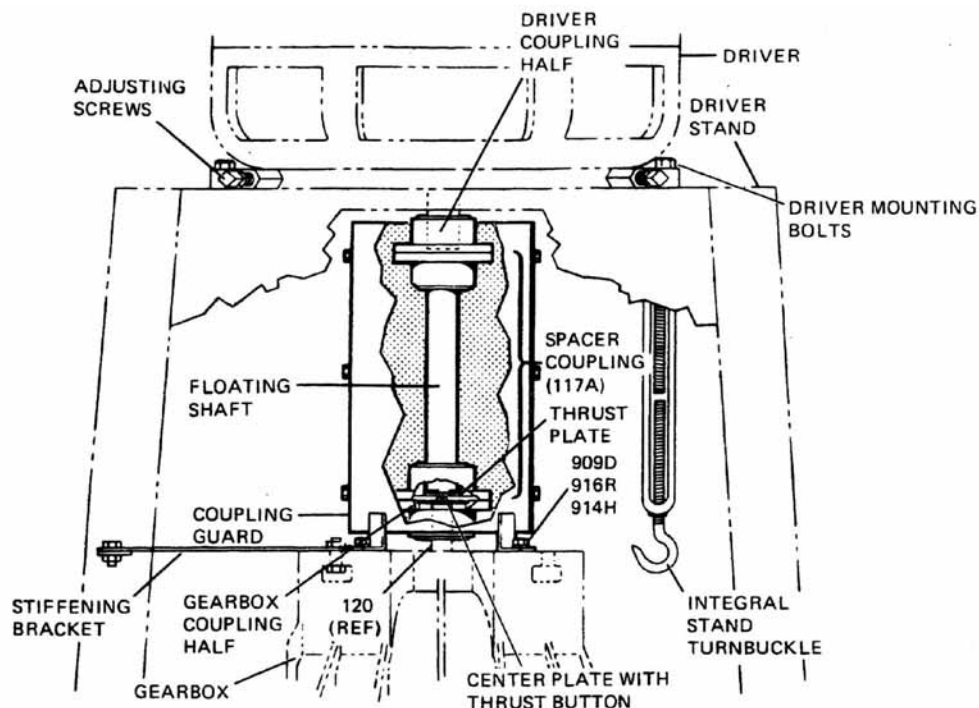
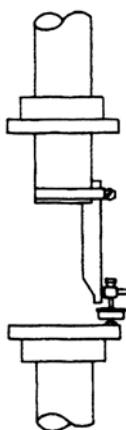

Figure 12. Vertical Stand Assembly
Figure 13.
- (b) To set angular alignment, remove the stiffening brackets (Figure 12), and attach a dial indicator with extension arm to the driver hub. Set the dial indicator on the gearbox hub face outside the bolt circle (Figure 13). Rotate the driver shaft (do not rotate
- (b) To set angular alignment, loosen the stiffening brackets (Figure 12) and attach a dial indicator with extension arm to the driver hub. Set the dial indicator on the gearbox hub face outside the bolt circle (Figure 13). Rotate the driver shaft (do not rotate gearbox shaft) to sweep the gearbox hub face. Using shims and the jack screws at the base of the pump, adjust pump to hold the total indicator reading within the angular limit specified in Table 4 (Page 12).
- (6) Final Alignment - Position the gearbox input shaft so it is extended as far as possible toward the driver. All final adjustments must be made from the driver end ONLY.
- (7) Falk Double Gear Coupling
- (a) Pack the sleeve teeth with grease and lightly coat seals with grease before assembly. See Step (5) (b), (page 11) for lubricant requirements.
- (b) To set final angular alignment, attach a dial indicator with extension arm to driver hub. Set the dial indicator on the gearbox hub face outside the bolt circle (Figure 13). Rotate the driver shaft (do not rotate gearbox shaft) to sweep the gearbox hub face. Using shims and jack screws provided, adjust the driver to hold the total indicator reading with the angular limit specified in Table 5.
(9) Thomas SN Type Spacer Coupling.
- (b) To set final angular alignment, attach a dial indicator with extension arm to driver hub. Set the dial indicator on the gearbox hub face outside the bolt circle (Figure 13, Page 12). Rotate the driver shaft (do not rotate gearbox shaft) to sweep the gearbox hub face. Using shims and jack screws to hold the total indicator reading within the angular limit specified in Table 4 (Page 12).